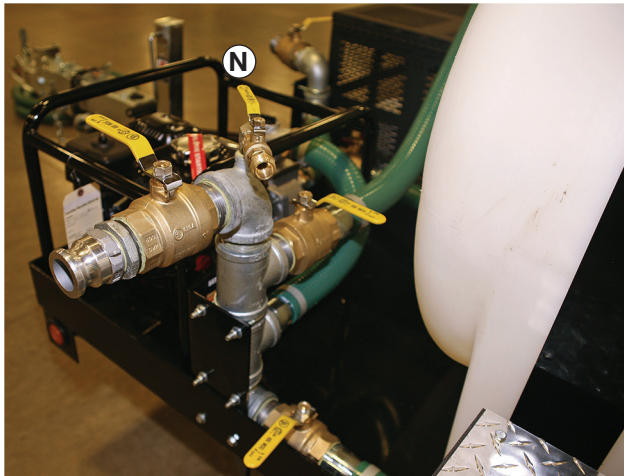

Figure 12
To use a garden hose, attach the hose to valve (N), open valve (N) with valves (K), (L) and (M) closed (figure 12).